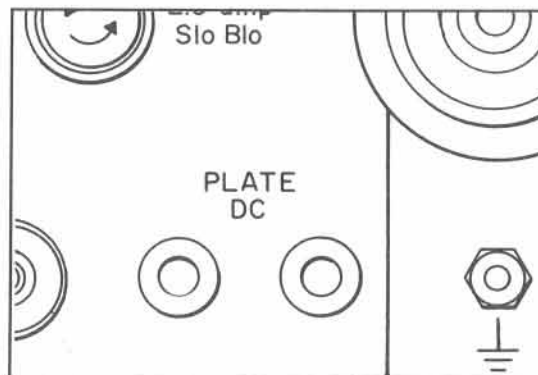

FIGURE 8. PLATING CABLE ATTACHMENT
- attach the Plating Cables to the *black* and *red* "DC OUTPUTS". For reversed polarity, reverse connections (refer to Figure 8),